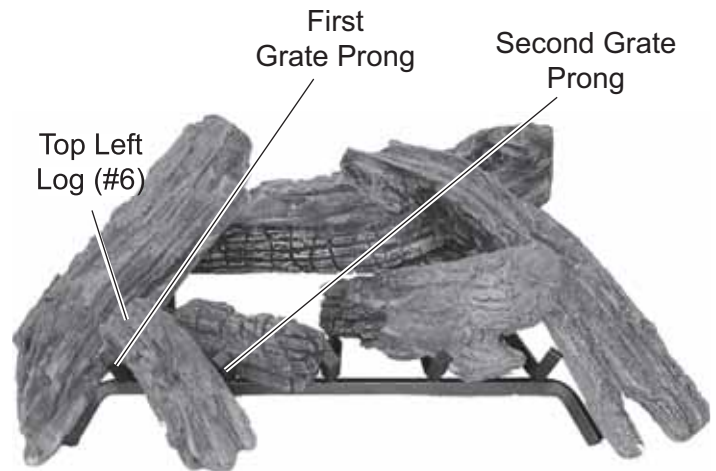

Figure 82 - Resting Top Left Log (#6) on Bottom Left Log and Back Log
7. Place end of Top Left Log #6 on bottom left log. Rest the other end between the first and second grate prongs. *See Figure 82.*